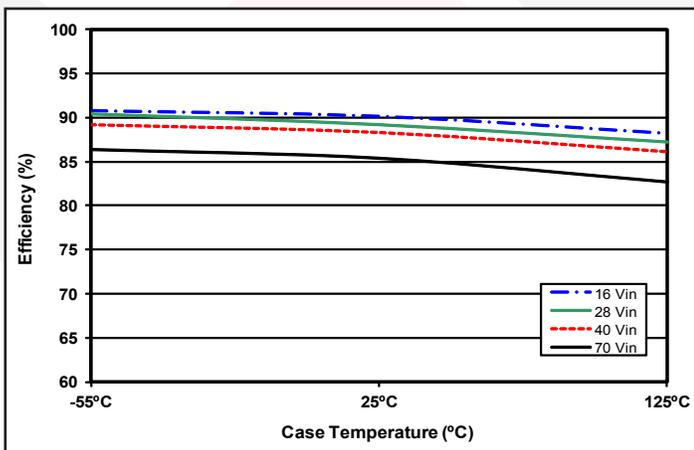

Figure 5: Efficiency at 60% load (2.4A load on +15V and 2.4A load on -15V) versus case temperature for Vin = 16V, 28V, 40V, and 70V.
2. Derate output power for continuous operation per Figure 5. 135°C is above specified operating range.